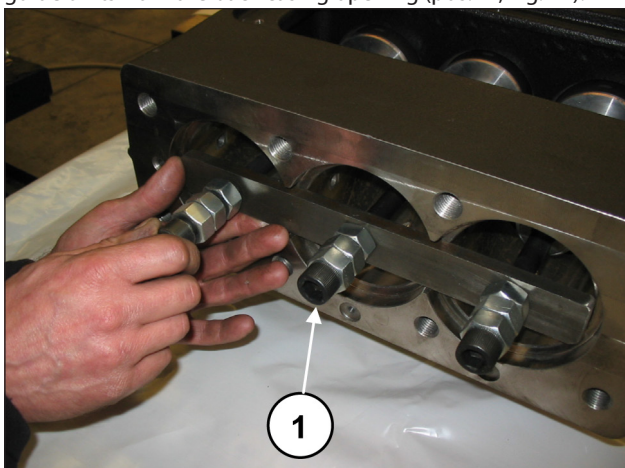
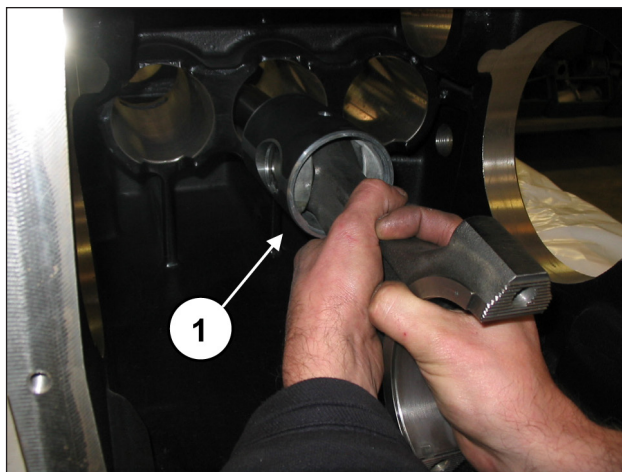

Fig. 40
Fig. 41
Unscrew the screws with tool code 27566200 to unlock the con-rods (pos. ①, Fig. 40) and then extract the con-rod-piston guide units from the back casing opening (pos. ①, Fig. 41).
Separate the caps from the half supports. Proper coupling can be verified by the numbering on the side (pos. ①, Fig. 42). After having checked casing cleaning, proceed with assembly of half support-piston guide unit inside casing rods (pos. ①, Fig. 41).
Block the three units with the use of special tool code 27566200 (pos. ①, Fig. 40).
Remove the tool for blocking the con-rods code 27566200 (pos. ①, Fig. 40) and roll back the connecting rods until they touch the bend shaft.